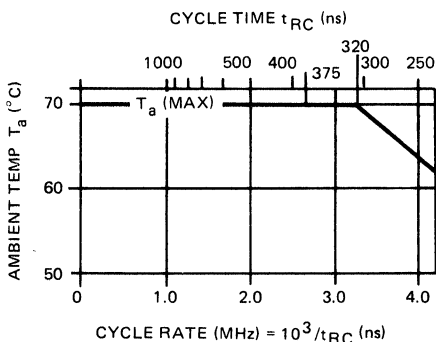
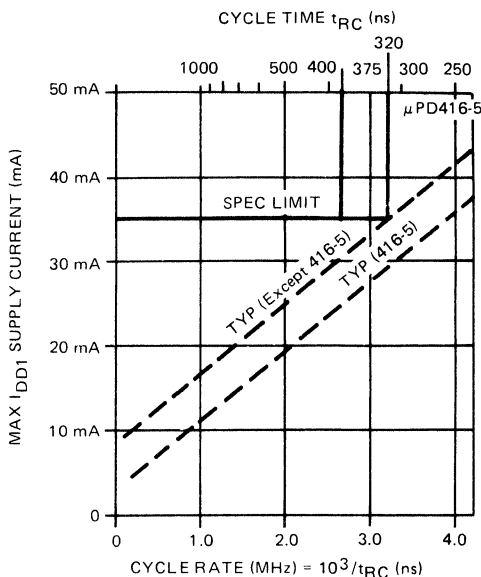

FIGURE 1
FIGURE 2
Notes: ① T_a is specified here for operation at frequencies to t_{RC} ≥ t_{RC} (min). Operation at higher cycle rates with reduced ambient temperatures and high power dissipation is permissible, however, provided AC operating parameters are met. See Figure 1 for derating curve.
② All voltages referenced to V_{SS}.
③ Output voltage will swing from V_{SS} to V_{CC} when activated with no current loading. For purposes of maintaining data in standby mode, V_{CC} may be reduced to V_{SS} without affecting refresh operations or data retention. However, the V_{OH} (min) specification is not guaranteed in this mode.
④ I_{DD1}, I_{DD3}, and I_{DD4} depend on cycle rate. See Figures 2, 3 and 4 for I_{DD} limits at other cycle rates.
⑤ I_{CC1} and I_{CC4} depend upon output loading. During readout of high level data V_{CC} is connected through a low impedance (135Ω typ) to data out. At all other times I_{CC} consists of leakage currents only.